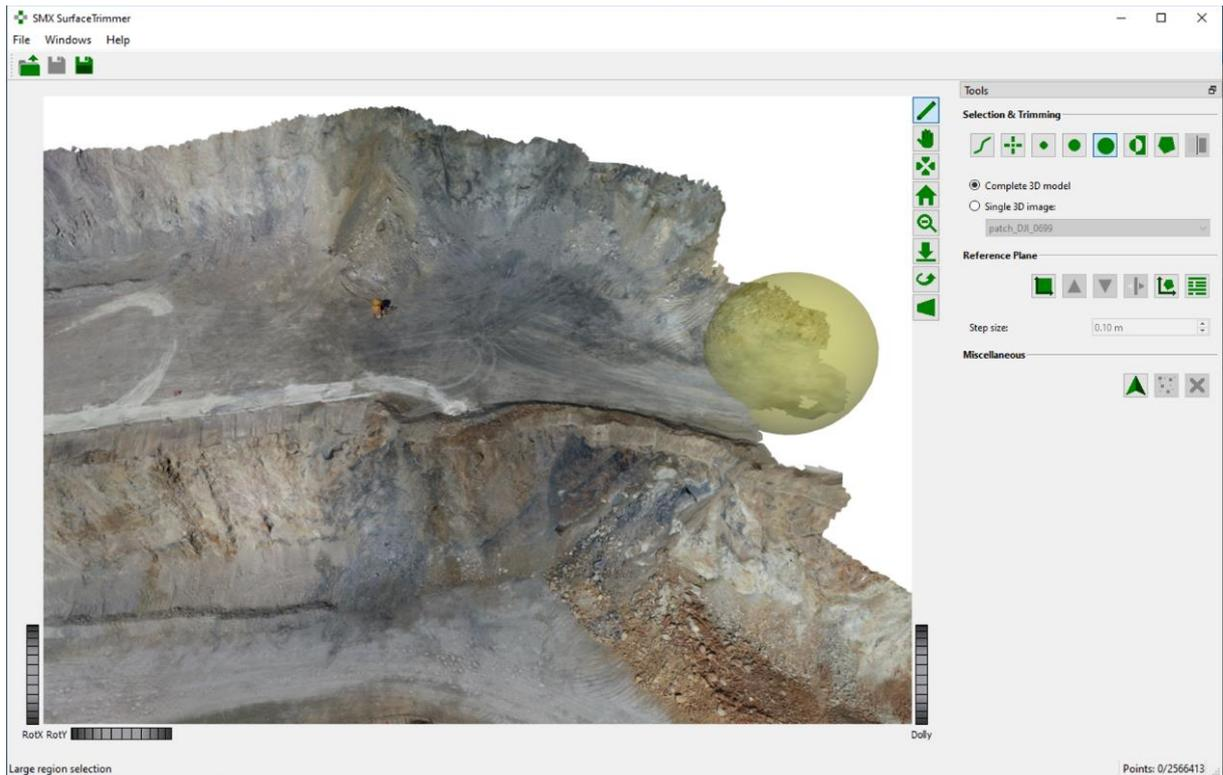
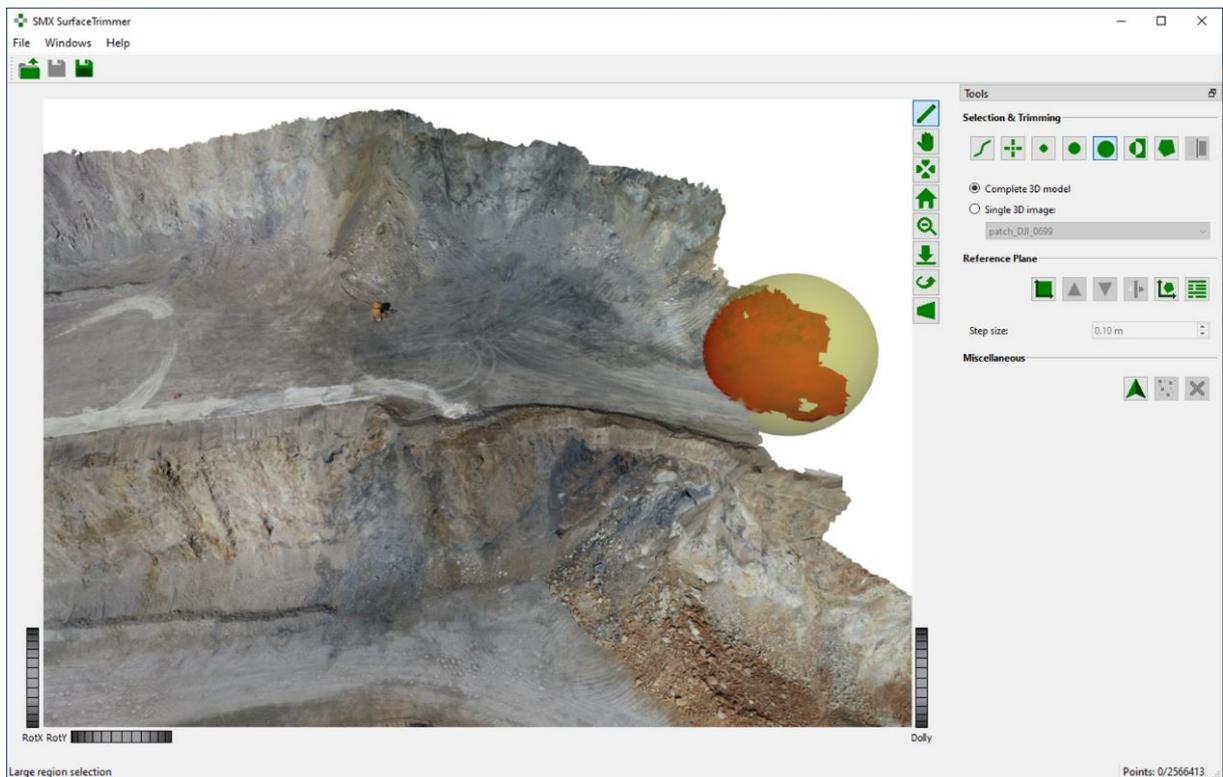

Figure 7: Selection of a region by a sphere
Figure 8: Region to delete (red) enclosed by the sphere
2. Click on the section to delete marked with a yellow sphere or selected with the single point marker within the 3D viewer (Figure 7). After confirmation with a click on the left mouse button the point/region to delete is highlighted in red (Figure 8).